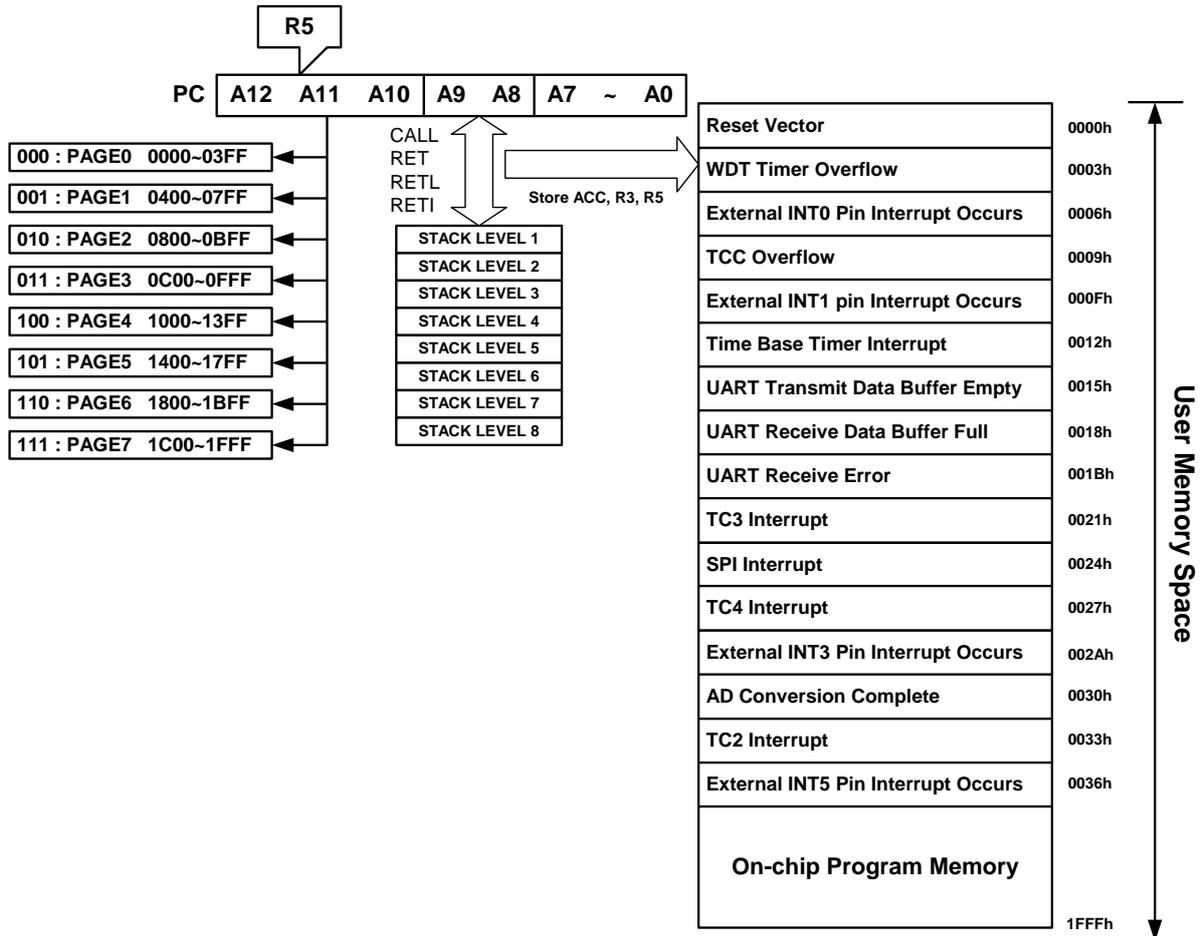

Fig. 5-3 Program Counter Organization
- ◇ Depending on the device type, R2 and hardware stack are 13-bit wide. The structure is depicted in Fig.5-3.